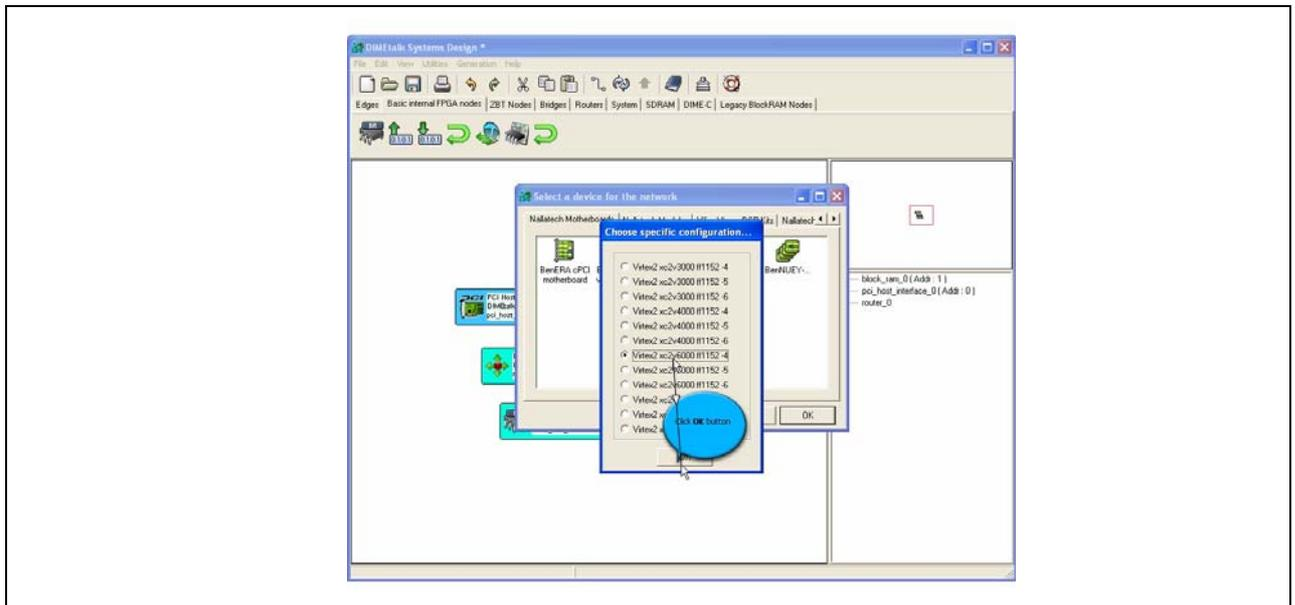

Figure 13: Device Type
- Choose the device option from the list of supported options to insert a device into the design window as shown in **Figure 13**.